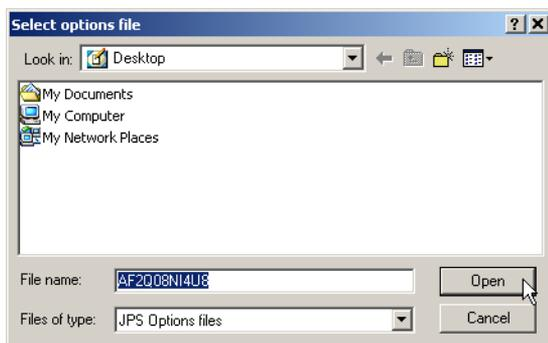

Figure 4-14. Load OAF
4. Navigate to the location of the new Option Authorization File. OAFs have .jpo or .tpo extensions and are unique to each receiver (Figure 4-14).
5. Select the appropriate file, and click **Open** (Figure 4-14). The new receiver option loads onto the receiver, and the **Option Manager** table updates.